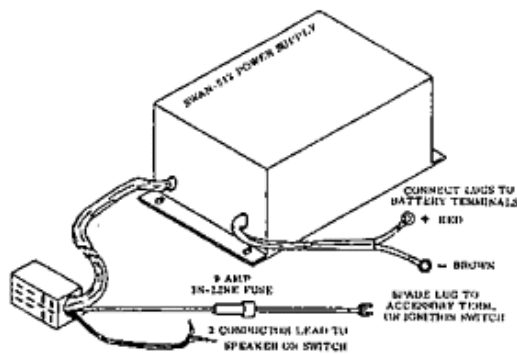

FIGURE 2--CABLING DIAGRAM
3. Make connections to the battery and the Jones plug as illustrated in Figures 2 and 3. All hardware for installation of the unit is included with the package.